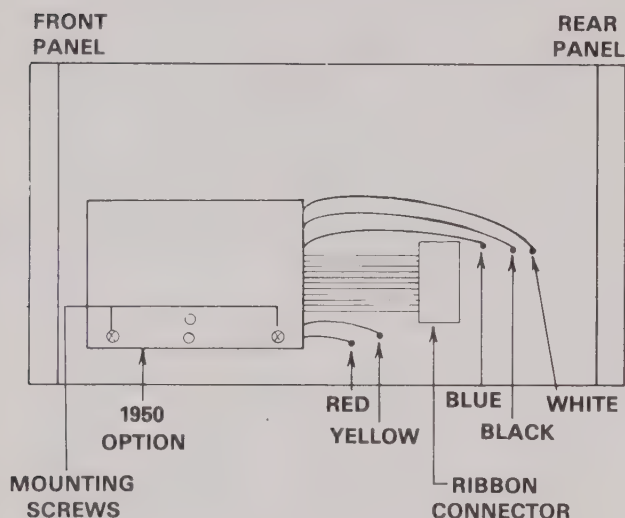

Figure 7-1. Model 1950 Installation
3. Position the Model 1950 on top of the shield as shown in Figure 7-1. Line up the holes at the outer edge of the Model 1950 with the holes in the shield.
pin 1 of the connector lines up with pin 1 of the receptacle as shown in Figure 7-1.